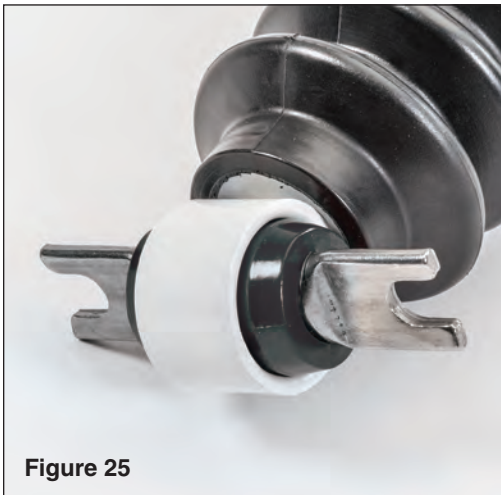

Figure 25
*Push the mounting plate with bushing through the top eyelet of the rear shocks (see FIG 25).*